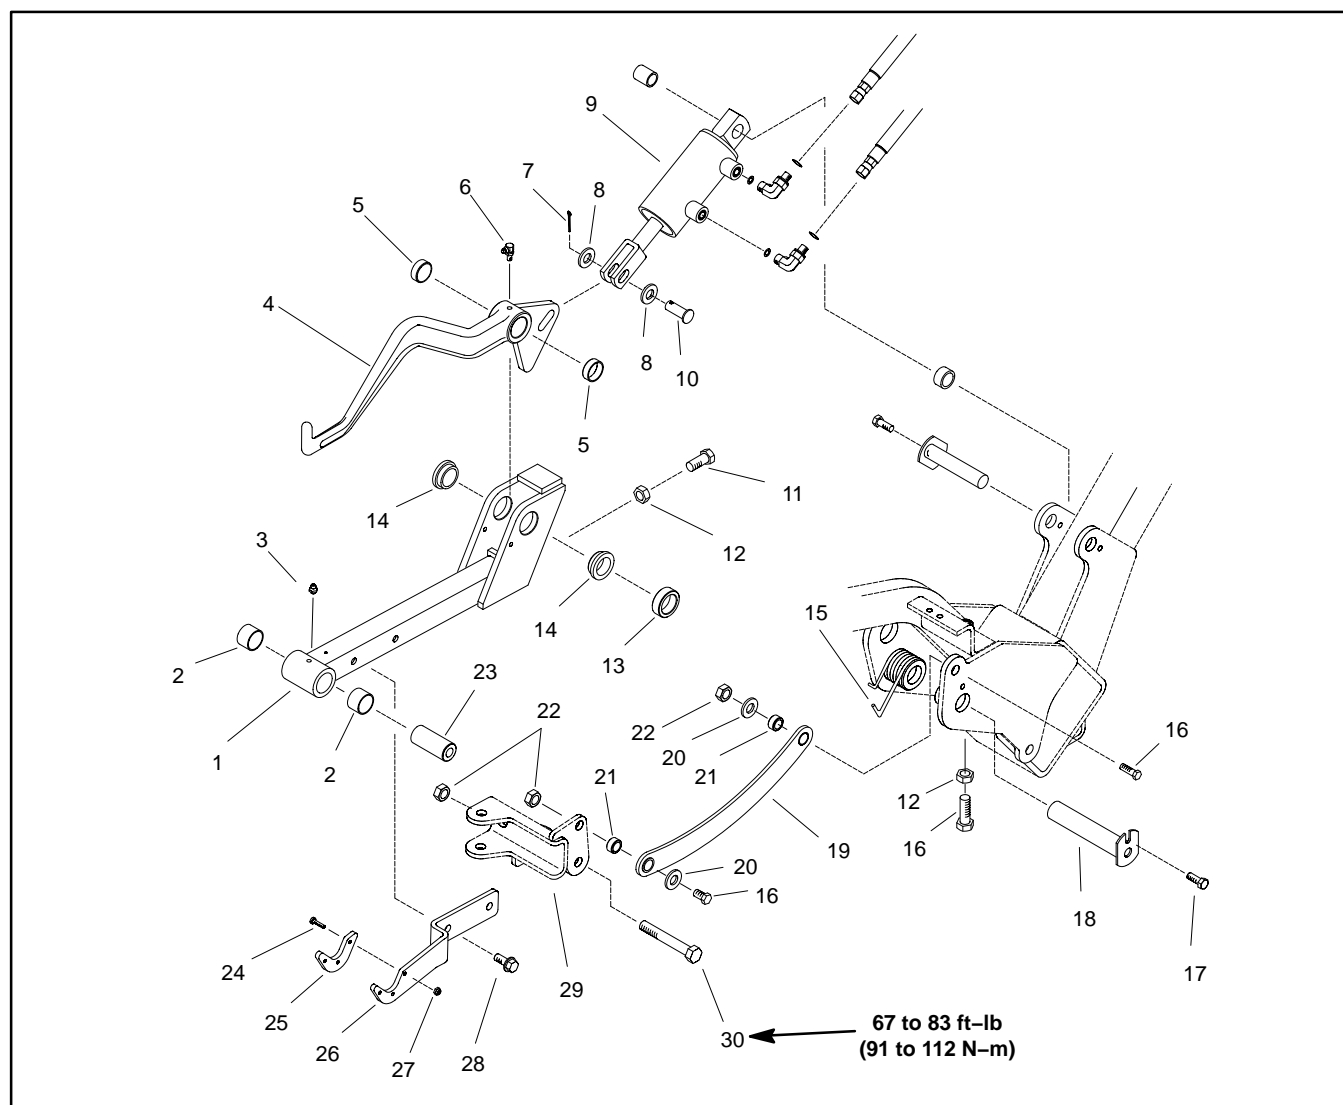
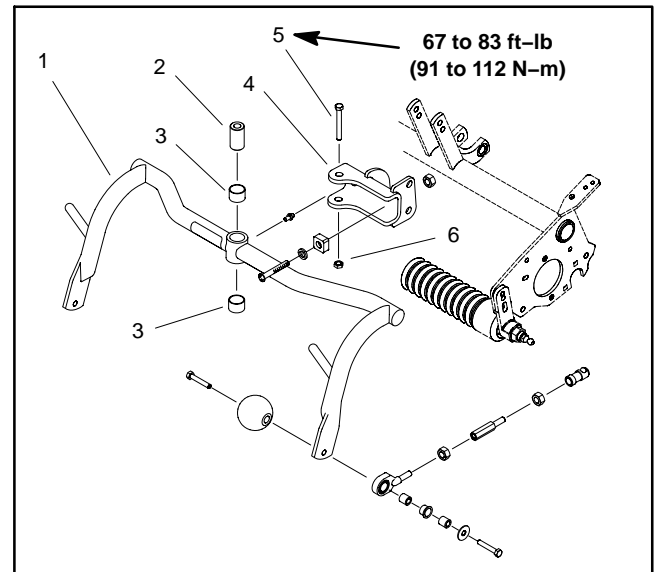

Figure 10
Figure 11
### Disassembly (Fig. 10)
3. Disassemble front lift arm as needed using Figures 10 and 11 as guides.
### Assembly (Fig. 10)
1. Assemble front lift arm using Figures 10 and 11 as guides.
- A. If clevis (item 29) was removed from front lift frame, torque cap screw from 67 to 83 ft-lb (91 to 112 N-m).
- B. If pull frame (item 1 in Fig. 11) was removed from clevis on lift frame, torque cap screw from 67 to 83 ft-lb (91 to 112 N-m).
3. Check that when raised to the transport position, the cutting units are secured by the transport plate. If necessary, loosen two cap screws (item 28) and reposition transport plate.